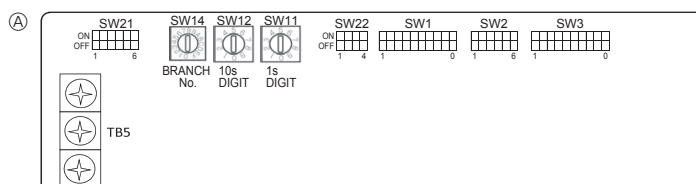

Fig. 4-6
- ③ Wireless remote controller (When installing wireless signal receiver)
- ④ Terminal block for indoor transmission cable
- ⑤ Terminal block for outdoor transmission cable (M1(A), M2(B), ④(S))
- ⑥ Remote controller
- ⑦ wireless signal receiver
- ⑧ wireless remote controller
4.5. Setting addresses (Fig. 4-6)
4.6. Switch setting for high ceiling or at the time of changing the number of air outlets (Fig. 4-6)
4.7. Sensing room temperature with the built-in sensor in a remote controller (Fig. 4-6)